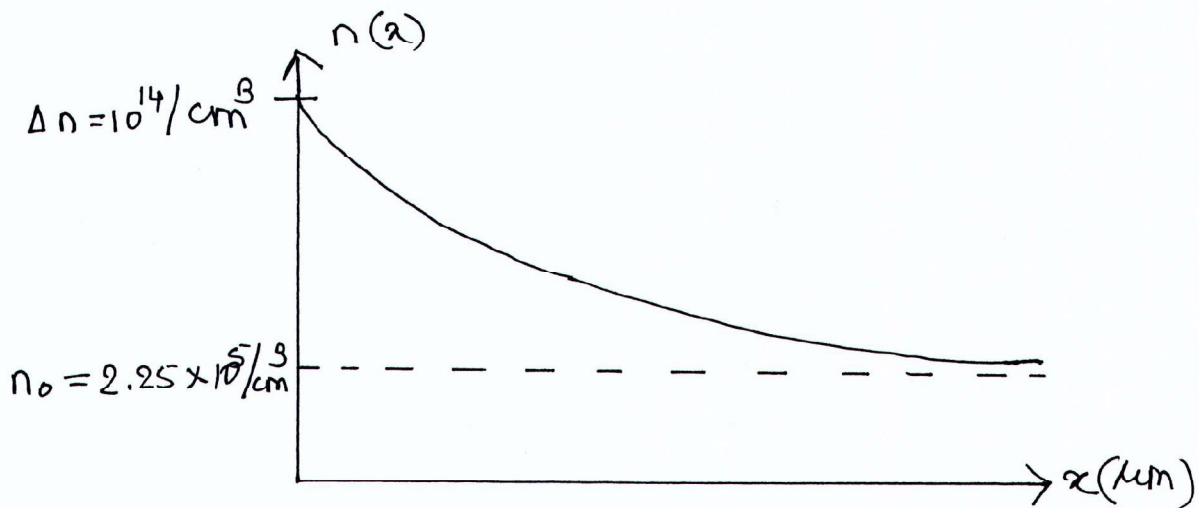

Figure 3
- In a given semiconductor sample excess carriers are injected at $x = 0$ due to external light illumination and profile of the excess carriers $n(x)$ of the sample w.r.t, x is given in the following figure 3. [$n_i = 1.5 \times \frac{10^{10}}{\text{cm}^3}$, $KT = 0.026$]. **[6 M]**